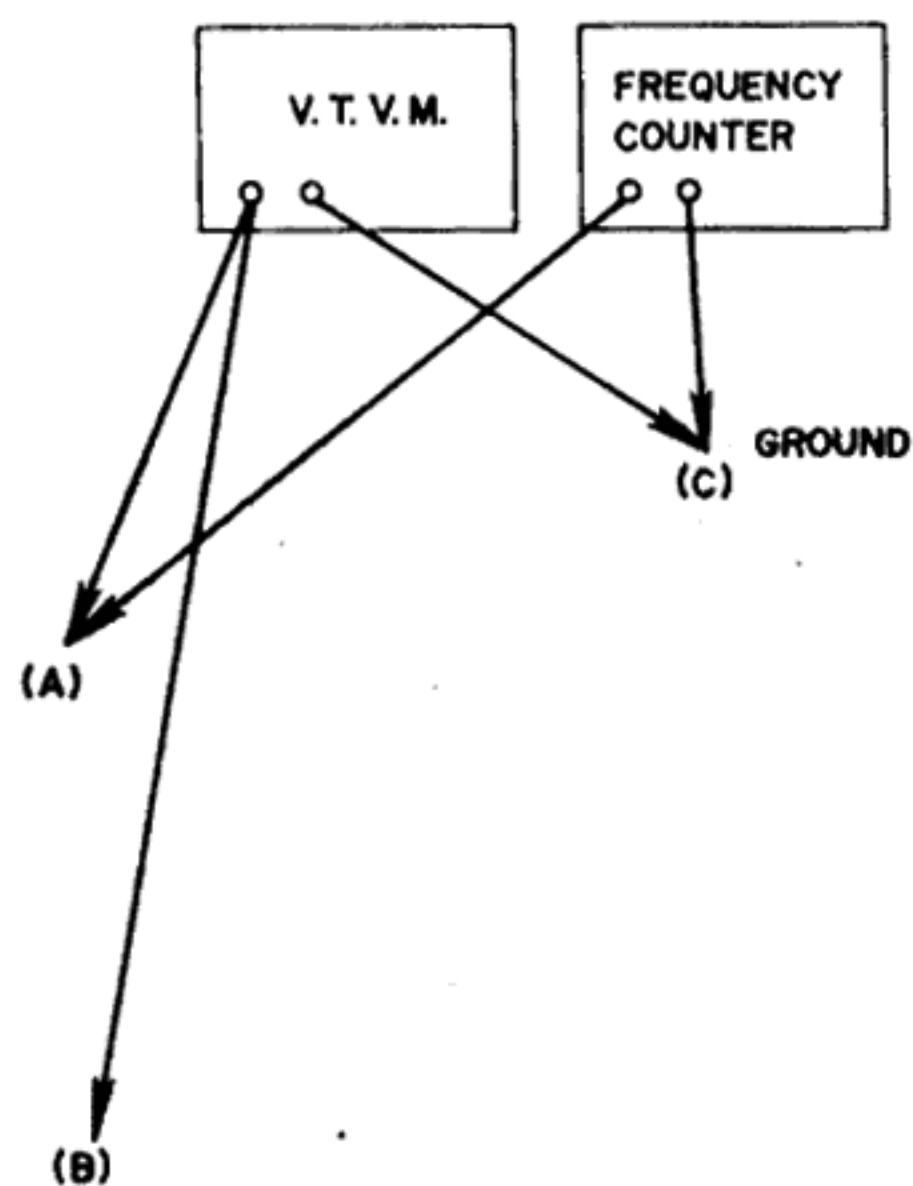

Fig. 16
3. RECORDING BIAS FREQUENCY ADJUSTMENT (See Fig. 16)
- 2) Connect a Frequency counter to points (A) and (C) in Fig. 16 of the oscillator P.C. Board (LE-5021) and read the frequency indication.
- 2) Connect a V.T.V.M. to points (B) and (C) in Fig. 16 of the oscillator P.C. Board (LE-5021) and read the V.T.V.M. indication.